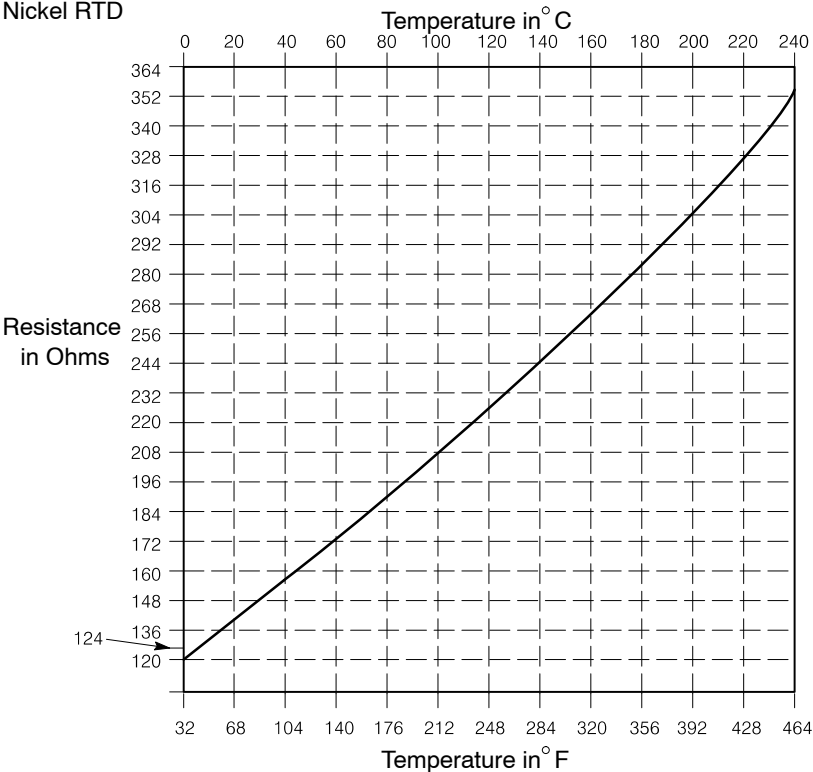

Figure 21: RTD resistance vs. temperature
5. Refer to Figure 21 to determine the expected resistance of the RTD at the known temperature. Compare the expected and measured resistance values.